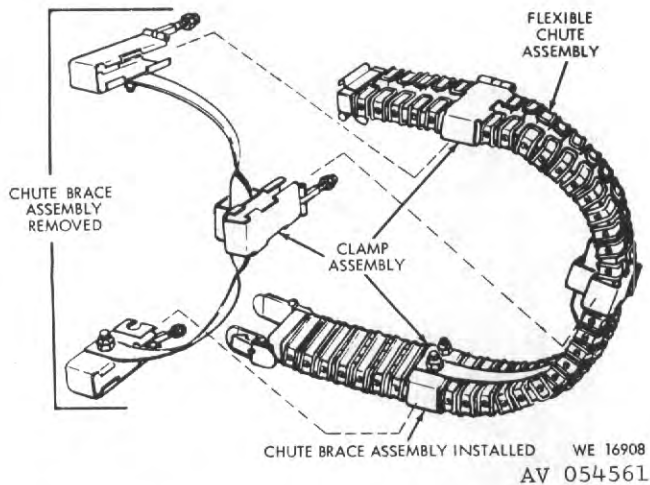

Figure 6-13. Installation or removal of brace assembly on chute assembly
g. Chute and Brace Assemblies - Properly fasten brace assembly to chute assembly, and chute assembly to machine gun M60D and ammunition box and cover assembly (figures 6-13 and 6-14).